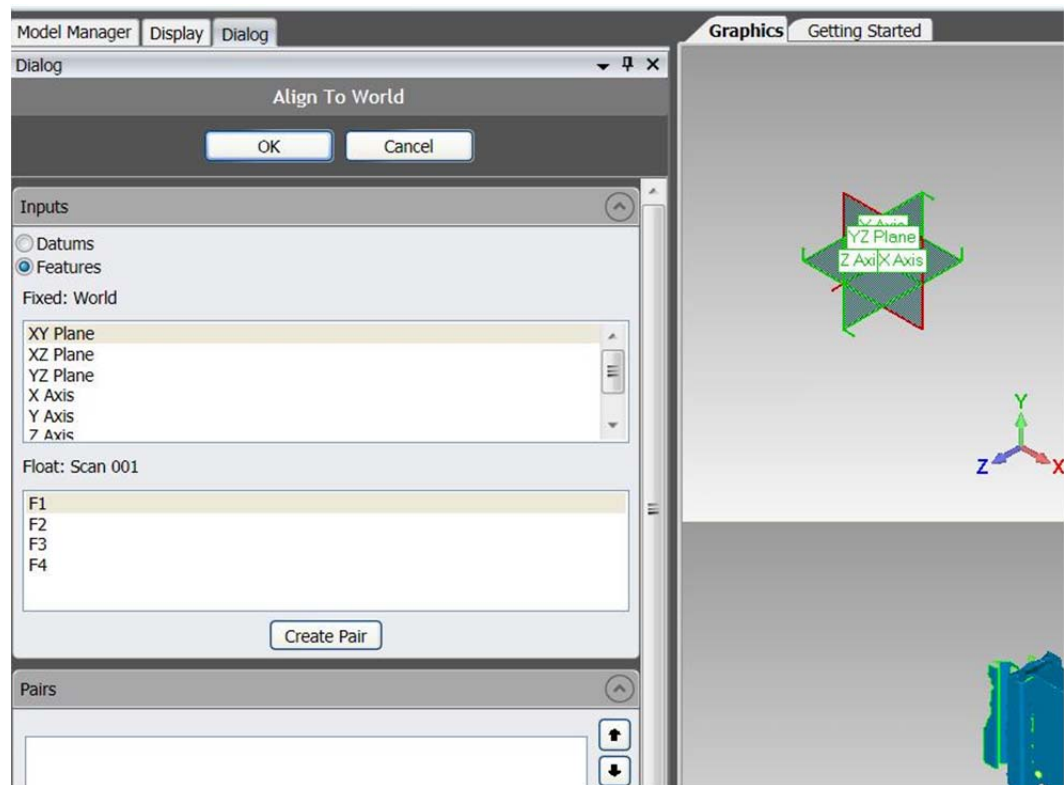

Figure B-7. Align to World Dialog and Pairing
10. Once all planes are captured (at least 3) you need to pair them with the world coordinate system to establish a sample coordinate system under the Alignment tab in GeoMagic and clicking the Align to World icon (Figure B-7).